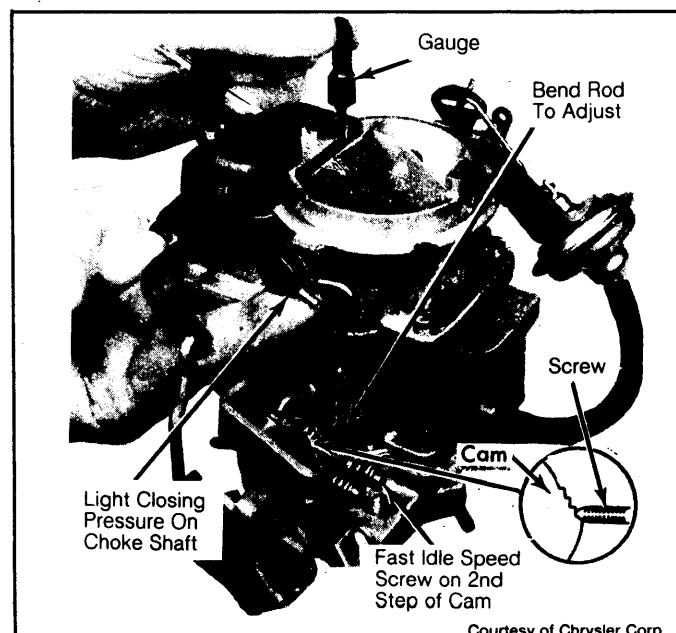

Fig. 6: Fast Idle Cam Position Adjustment
1) On Jeep models, remove choke coil cover retaining screws. Rotate choke coil cover 90 degrees in the "Rich" direction. Install and tighten one slot-type retaining screw. On all models, place fast idle speed screw on 2nd step of fast idle cam. See Fig. 6.